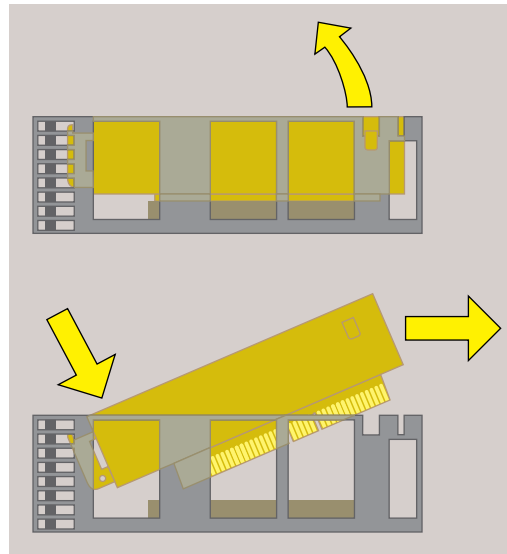

Figure 2-30 Removing the PCI Tray
2. Push down slightly on the rear of the PCI tray and remove it from the system module (Figure 2-30). *Do not remove the PCI board from the tray, if one is installed.*